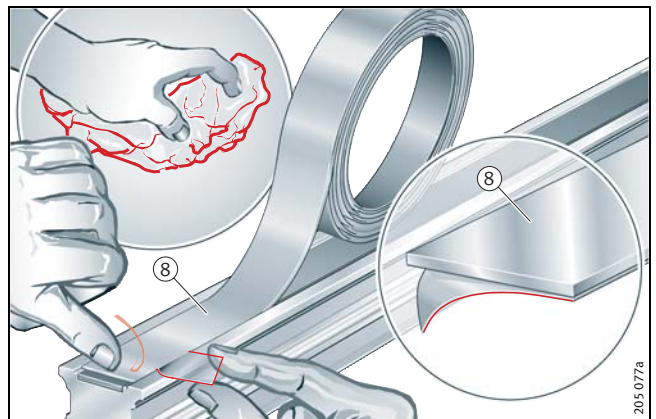

Figure 13 • Attaching the covering strip
- Fix the covering strip ⑧ in place (see page 6, *Guidance on adhesive fixing of magnetic and covering strips*, see Figure 13).